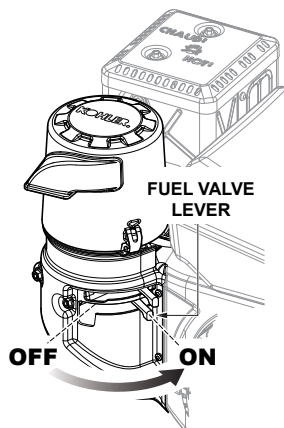

Figure 19. Fuel Valve Lever
2. Move the fuel valve lever (Figure 19) to the ON position.